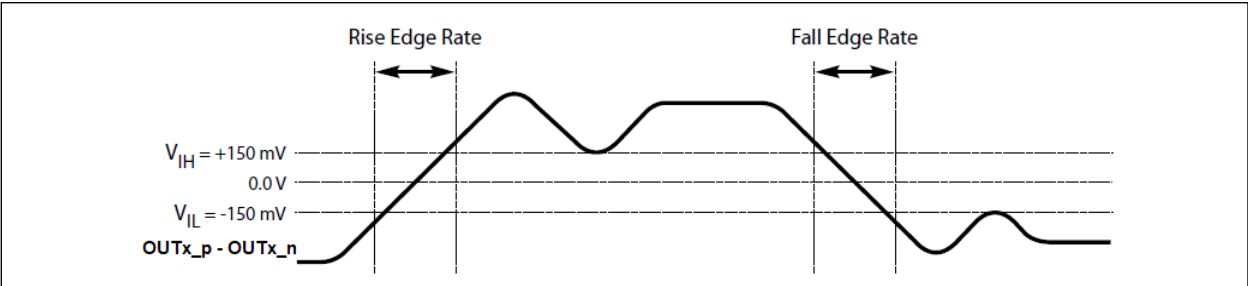

FIGURE 1-5: Differential Measurement Points for Rise and Fall Time.
- 2:** Measured from -150 mV to $+150\text{ mV}$ on the differential waveform (derived from OUTx_p to OUTx_n). The signal must be monotonic through the measurement region for rise and fall time. The 300 mV measurement window is centered on the differential zero crossing. See Figure 1-5.